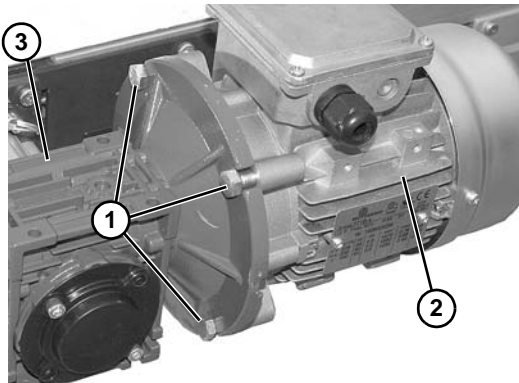

Figure 30
3. Remove four (4) screws (**Figure 30, item 1**). Detach motor (**Figure 30, item 2**) from gear reducer (**Figure 30, item 3**). Retain motor output shaft key.